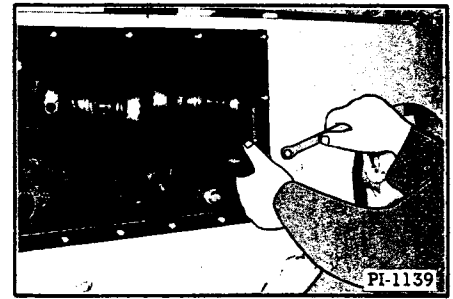

Fig. 27 Tightening Clutch Drive Chain
12. Reinstall the clutch drive (outside clutch) chain, tightening it hand tight (Figure 27). It should be tight enough so that it can be deflected 1/4" under 10 lbs. spring scale tension (Figure 28).
13. Reinstall the clutch drive (outside clutch) chain, tightening it hand tight (Figure 27). It should be tight enough so that it can be deflected 1/4" under 10 lbs. spring scale tension (Figure 28).